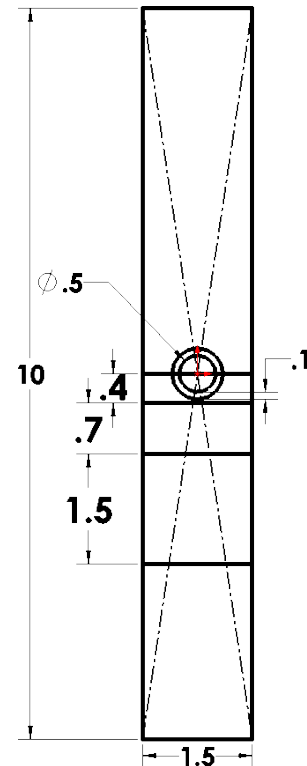

Fig. 7
Step 3. Click **Smart Dimension**  (S) on the Sketch toolbar.
Step 4. Add the dimensions, **Fig. 7**.